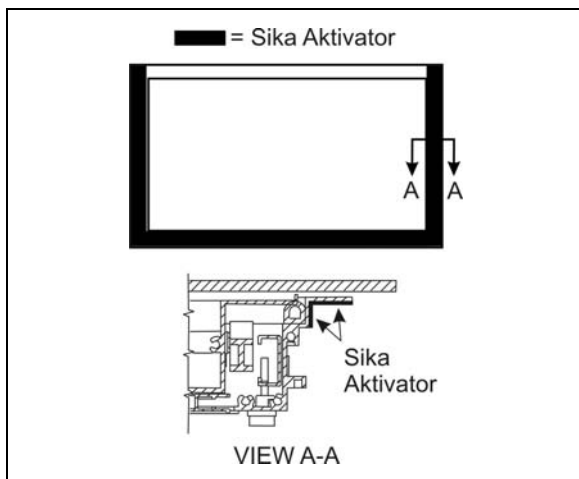

FIGURE 69 : AWNING WINDOW – SIKa AKTIVATOR
- Previously clean surface with anti-silicone and then apply Sika Aktivator as per FIGURE 69;